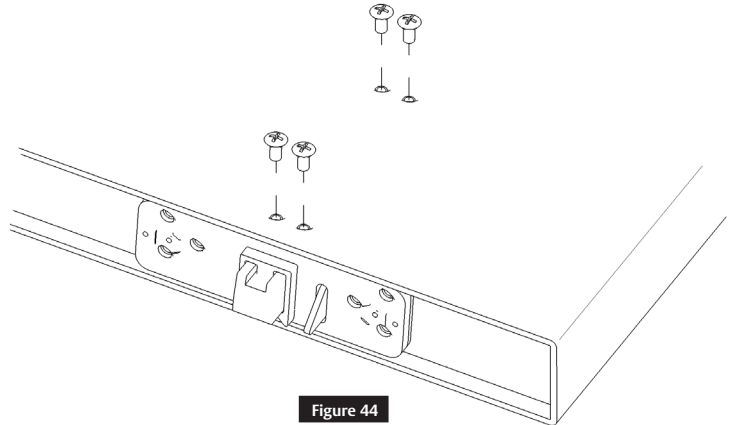

Figure 44
- Install four (4) 10-24 oval head screws on the face of the door. (Figure 44)